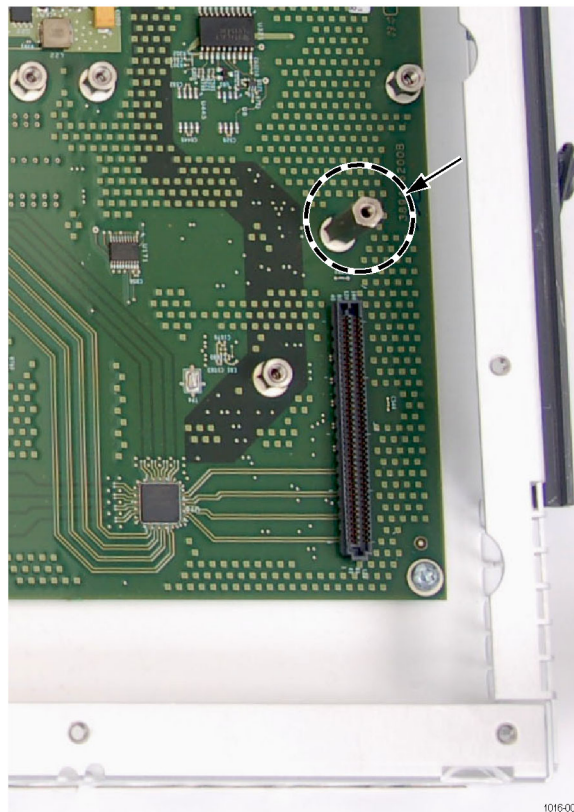

Figure 7: Audio post in CPS board location
2. If an audio board was present, temporarily remove the post from where the Option CPS board installs. Save the post for reinstallation. (See Figure 7.)